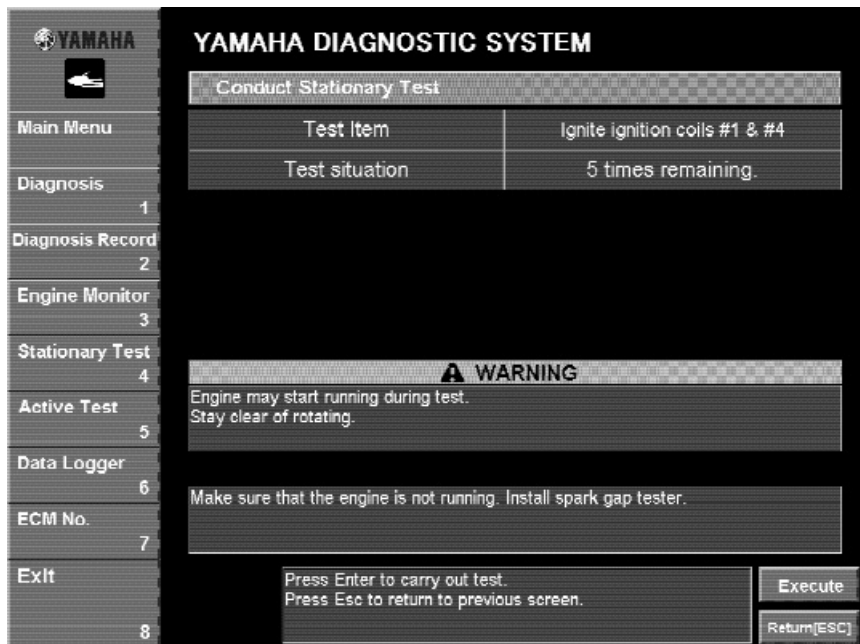

Fig. 42
5. Click the **Execute** button or press the Enter key on your keyboard (Fig. 42).